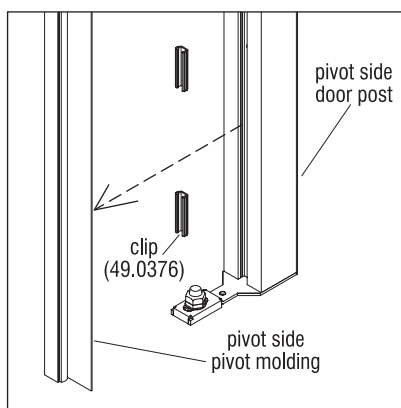

Figure 1 - Remove Pivot Molding
1. Remove door leaf from frame and set aside, then remove pivot side pivot molding (Figure 1). Two thin pry bars can be used working from both sides of the door post, moving from one end of the molding to the opposite end. Once the molding is removed, pry any remaining black plastic clips (49.0376) out of the post.